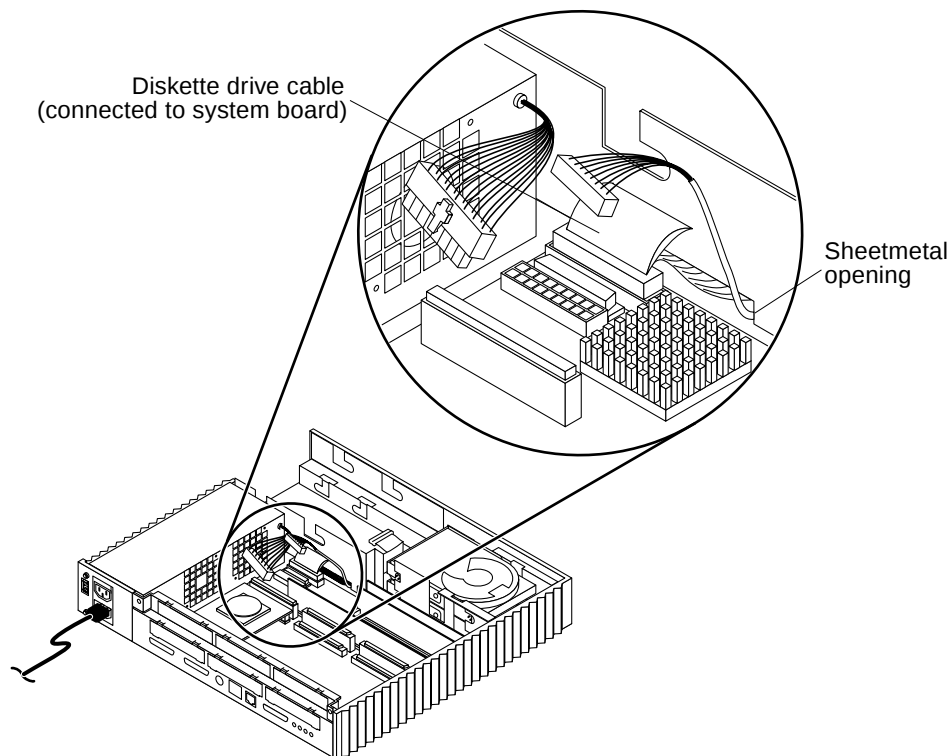

FIGURE 8-45 Pulling the Diskette Drive Cable Through the Drive Bracket Opening
7. Carefully pull the end of the diskette drive cable that connects to the system board through the sheetmetal opening into the drive bracket area (FIGURE 8-45).
1. **Work the end of the diskette drive cable that connects to the system board through the sheetmetal opening in the drive bracket and connect it to the system board (FIGURE 8-45).**